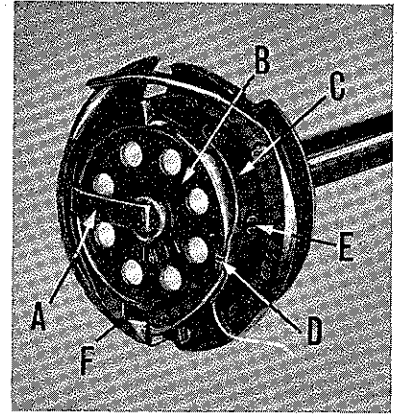

Fig. 19
Open the bobbin case latch (A, Fig. 19) and insert bobbin (B) so that the thread will come off the bottom of the bobbin in the direction of the case tension spring (C) and through the slot (D) in the bobbin case. Leave three or four inches of thread outside the bobbin case. Close bobbin case latch. The tension on the bobbin thread is controlled by turning screw (E) in the required direction. For easier access to this screw, have the needle in its highest position.